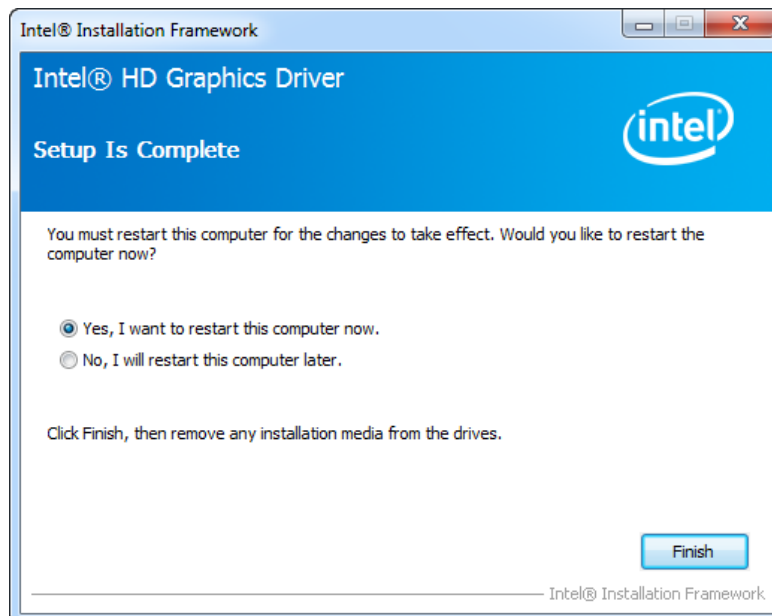

Figure 8-14: Graphics Driver Installation Finish Screen
Step 16: The Finish Screen in Figure 8-14 appears.